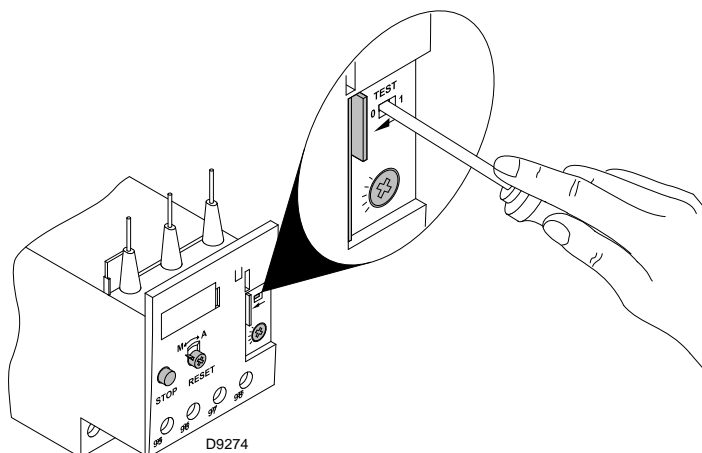

Fig. 38
- To test the thermal relay, insert a screwdriver in the window **"TEST"** (Fig. 38) and move it in the sense of the arrow (towards right).